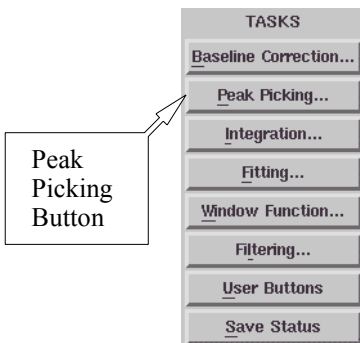

Figure 6-23 The Peak Picking task.
2. **Enter the Peak Picking task.** Click **Peak Picking** in the **TASKS** menu. (See Figure 6-23.) A submenu for Peak Picking replaces the **TASKS** menu.